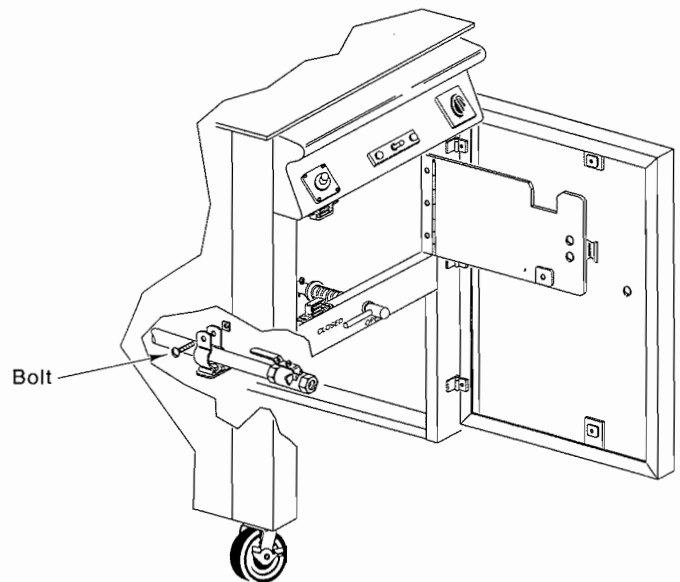

Fig. 33
4. Remove bolt from exhaust tank drain line clamp (Fig. 33).